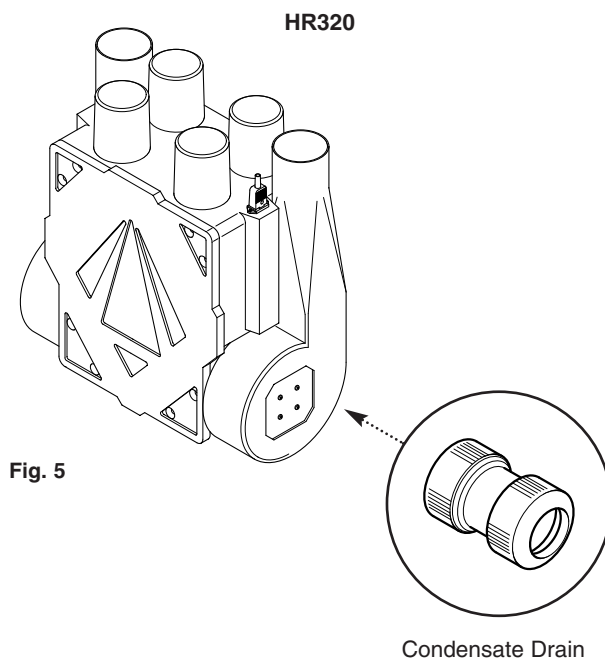

Fig. 5
5. The unit is supplied with a 22mm diameter condensate drain fitting, packed loose in the box. The WH unit casing is moulded with two 22mm diameter drainage spigots in the bottom corners. The casing of the unit can be set up for right hand or left hand drainage by cropping the domed end off either one of these spigots and pushing on the condensate drain fitting (Fig. 5).